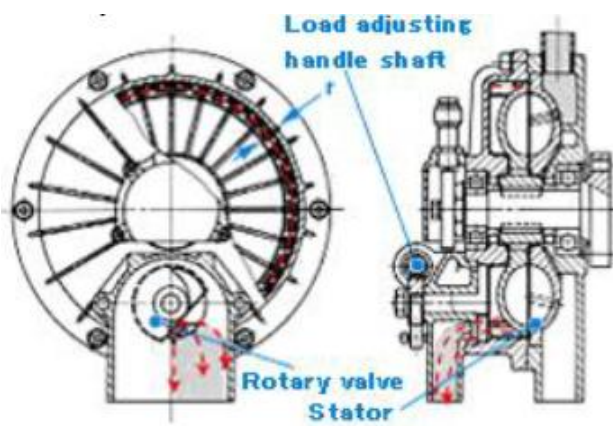

Fig. 1
3. Figure 1 illustrates the condition where the braking torque is at its minimum. In this state, most of the water entering from the inlet passes through the rotor chamber and is discharged immediately.
4. Figure 2 shows the condition where the braking torque is at a moderate level. Compared with Figure 1, the radial water level has increased, resulting in a greater amount of retained water inside the rotor chamber.